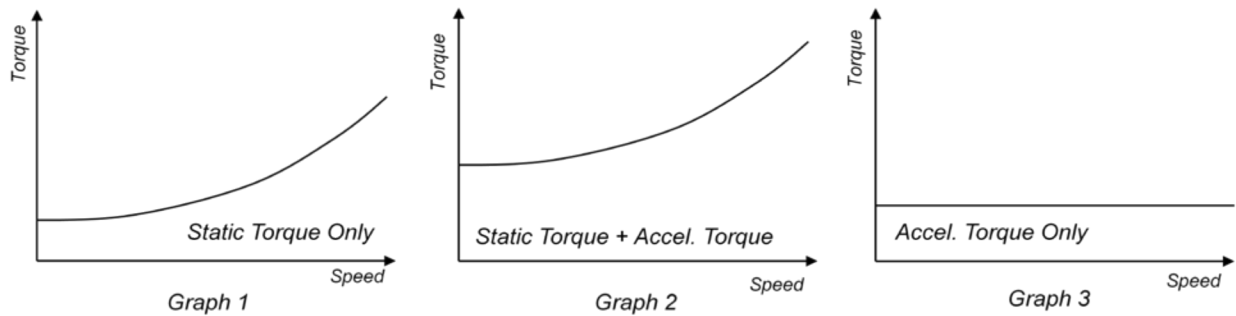

Figure 11-17. Average Motor Torque Readings
3. Spin the motor up to a low speed and allow it to settle (so that inertia torque equals zero). Then take a reading of the average motor torque (Figure 11-17).
8. For each torque value in graph 3, divide it by the local acceleration for that point from step 7, to create a graph of inertia (J) as a function of speed.